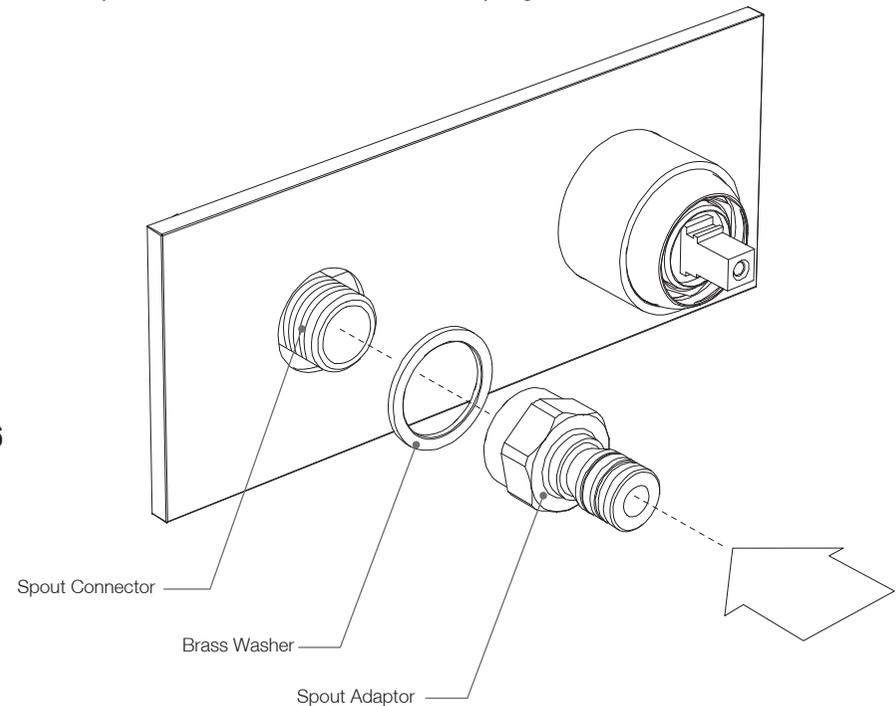

fig. 6
- Slide the brass washer over the back of the spout adaptor, then screw the spout adaptor onto the end of the spout connector. Tighten ensuring the brass washer is sitting flush against the chrome face plate. Important: make sure the spout adaptor is securely and tightly threaded onto the spout connector. Apply extra PTFE tape between the two threads if necessary. (fig 6)